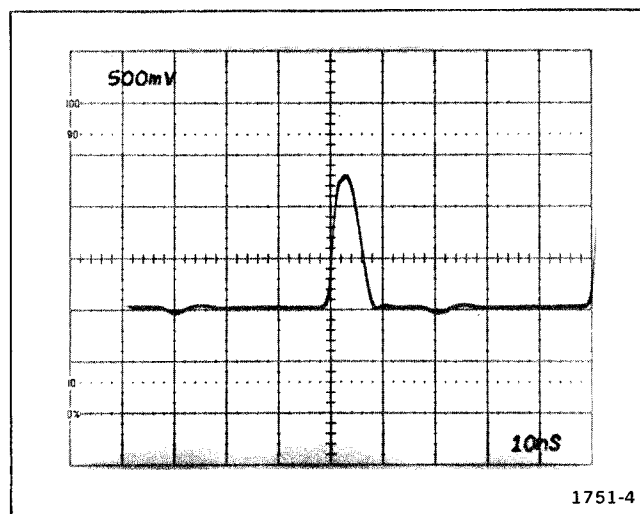

Fig. 5-15. Fast delay time accuracy.
e. Align the leading edge of the time-mark to the center vertical graticule line, using the POSITION control. See Fig. 5-15 for reference.